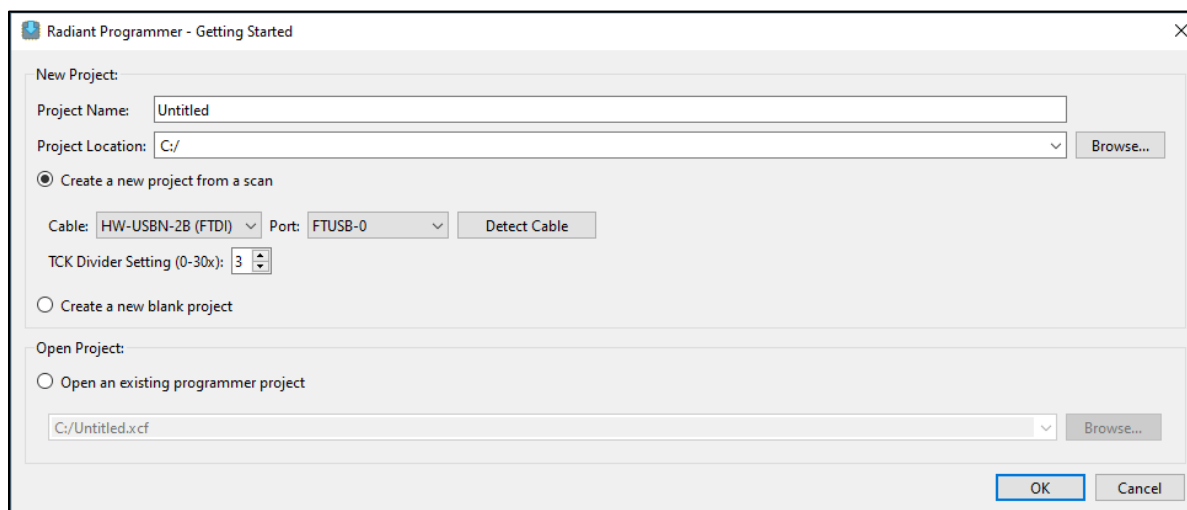

Figure 3.3. Starting Programmer
1. Start a programming project by launching the tool and initiating a board scan, as shown in Figure 3.3.